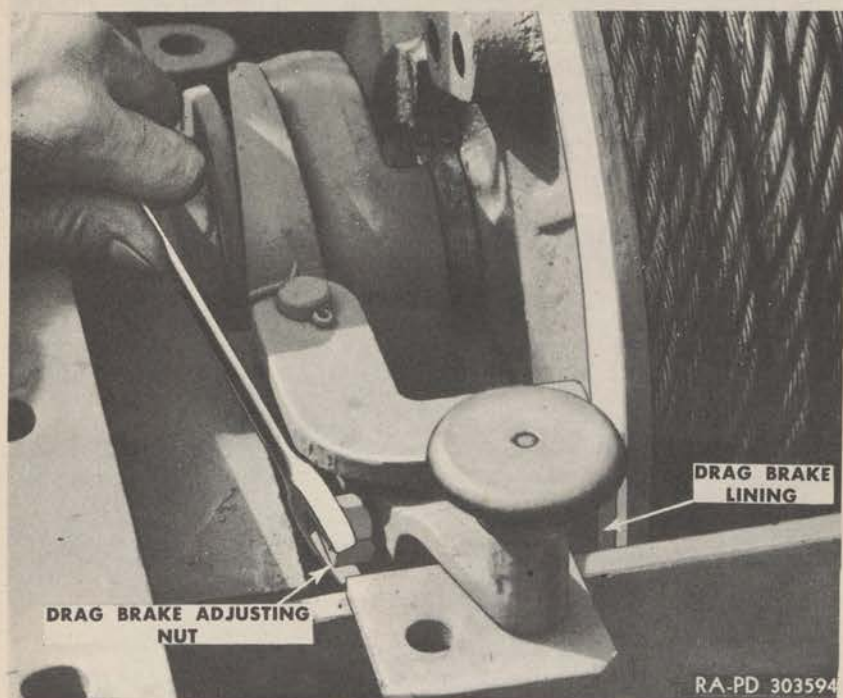

Figure 173—Adjusting Winch Drag Brake
(3) Even with the brake correctly adjusted the brake case will heat somewhat, and smoke may be noticed due to burning oil on the brake lining. However, if the hand cannot be held on the case, the brake is too tight. It will then be necessary to loosen the adjusting nut and to test again.
b. Drag Brake Adjustment. There is a drag brake which is applied whenever the winch clutch is disengaged. Its function is to keep the drum from unreeling unless there is a pull on the cable, and to keep the cable from backlashing. To adjust it, loosen the lock nut and turn the adjusting nut to secure the proper tension on the drum (fig. 173).